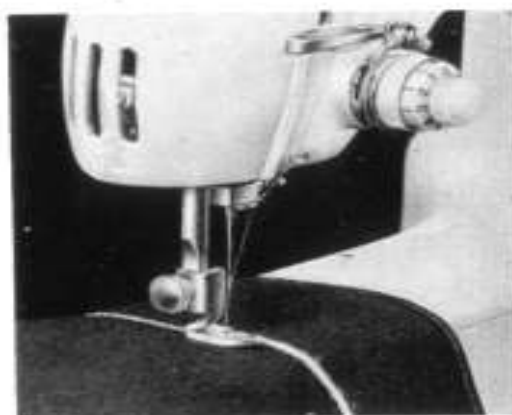

Fig. 29
5. Start to sew slowly and follow the design carefully. See Fig. 29.